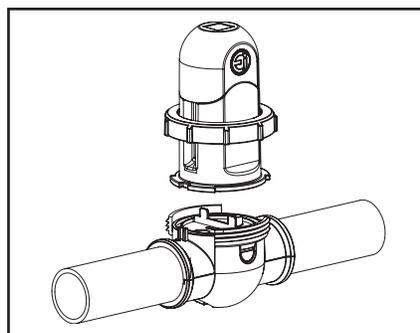

Figure 25. Remove the Cell
5. Remove the cell (see Figure 25).